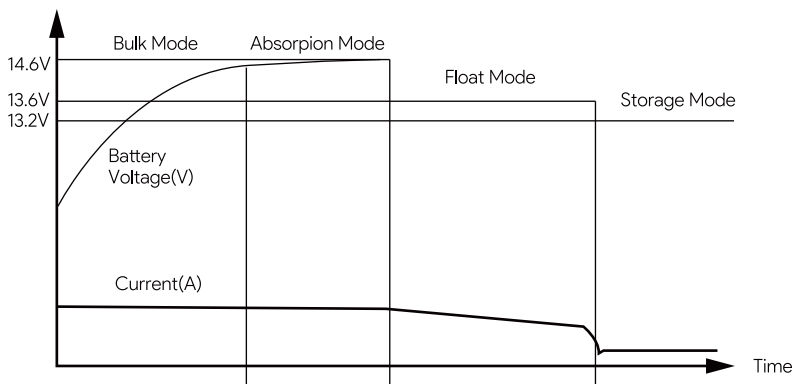

Figure 1
- (1) The terminal marked + or POS is for the RV 12VDC positive connection.
- (2) The terminal marked - or NEG is for the RV 12VDC negative connection.
- (3) The 12VDC output wiring does not require over-current protection, because the Converter / Charger limits current output. However, all electrical connections need to comply with the appropriate NEC code.
9. Lead-acid battery mode: Enter this mode, LED1 lights up green. This mode provides an automatic charging system through four modes. (Figure 1).